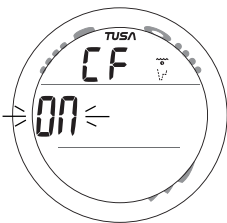

Fig. 48 - SET CONS FACTOR
**Set Conservative Factor** information includes (Fig. 48):